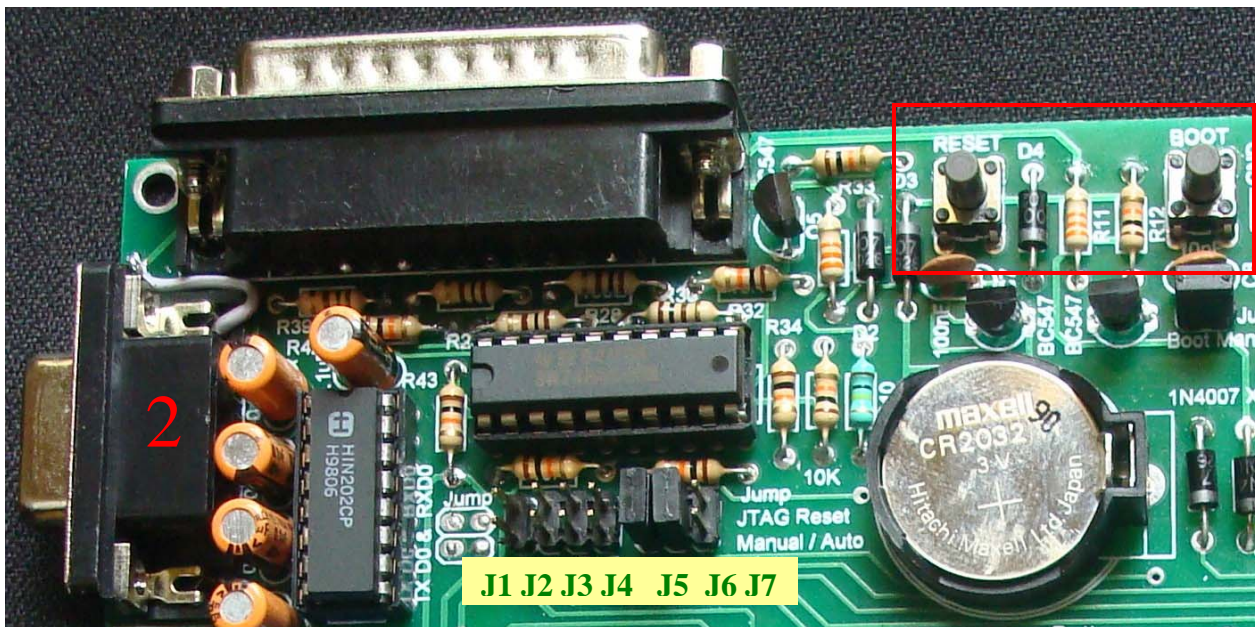

Fig: 1
3. Jumper Settings – Close the Jumper J1, J2, J3, J5 & J6 as shown in Fig: 1, for both Serial & JTAG programming, if required as port one the jump and use it as Port Pins